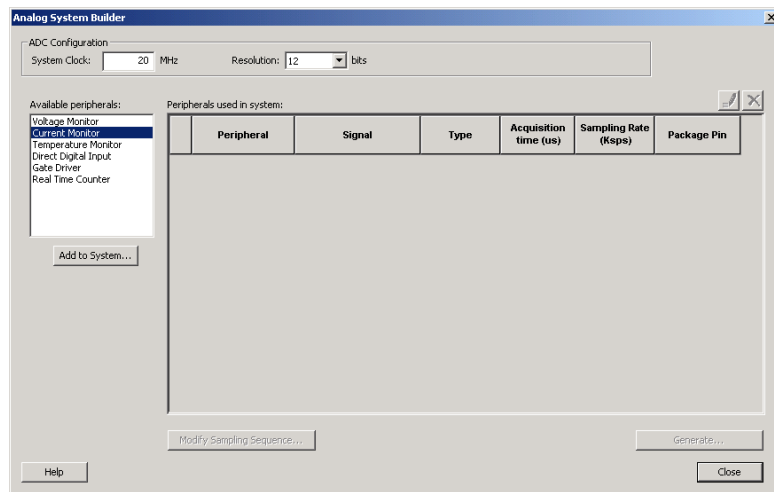

Figure 1-6. Analog System Builder Window
2. Invoke Analog System Builder from Core Varieties for Fusion Family window (Figure 1-6)